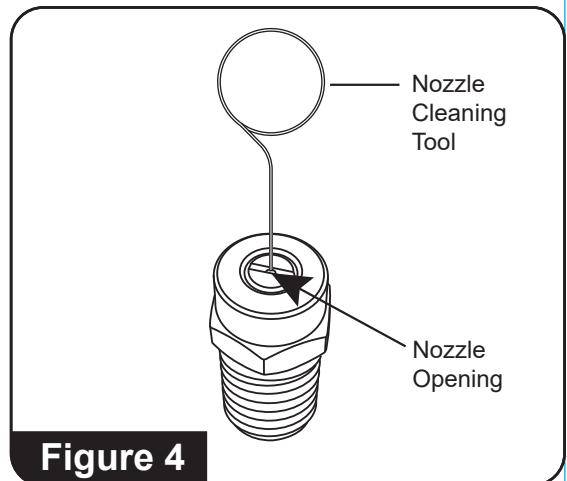

Figure 4
4. Using the nozzle cleaning tool, free any foreign material clogging or restricting opening of the nozzles. (See Figure 4)